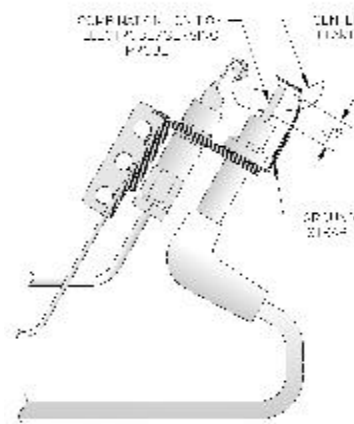

Figure 15: Pilot Burner Flame
H. Check pilot burner flame. See Figure 15. Flame should be steady, medium hard blue enveloping 3/8 to 1/2 inch of sensing probe.